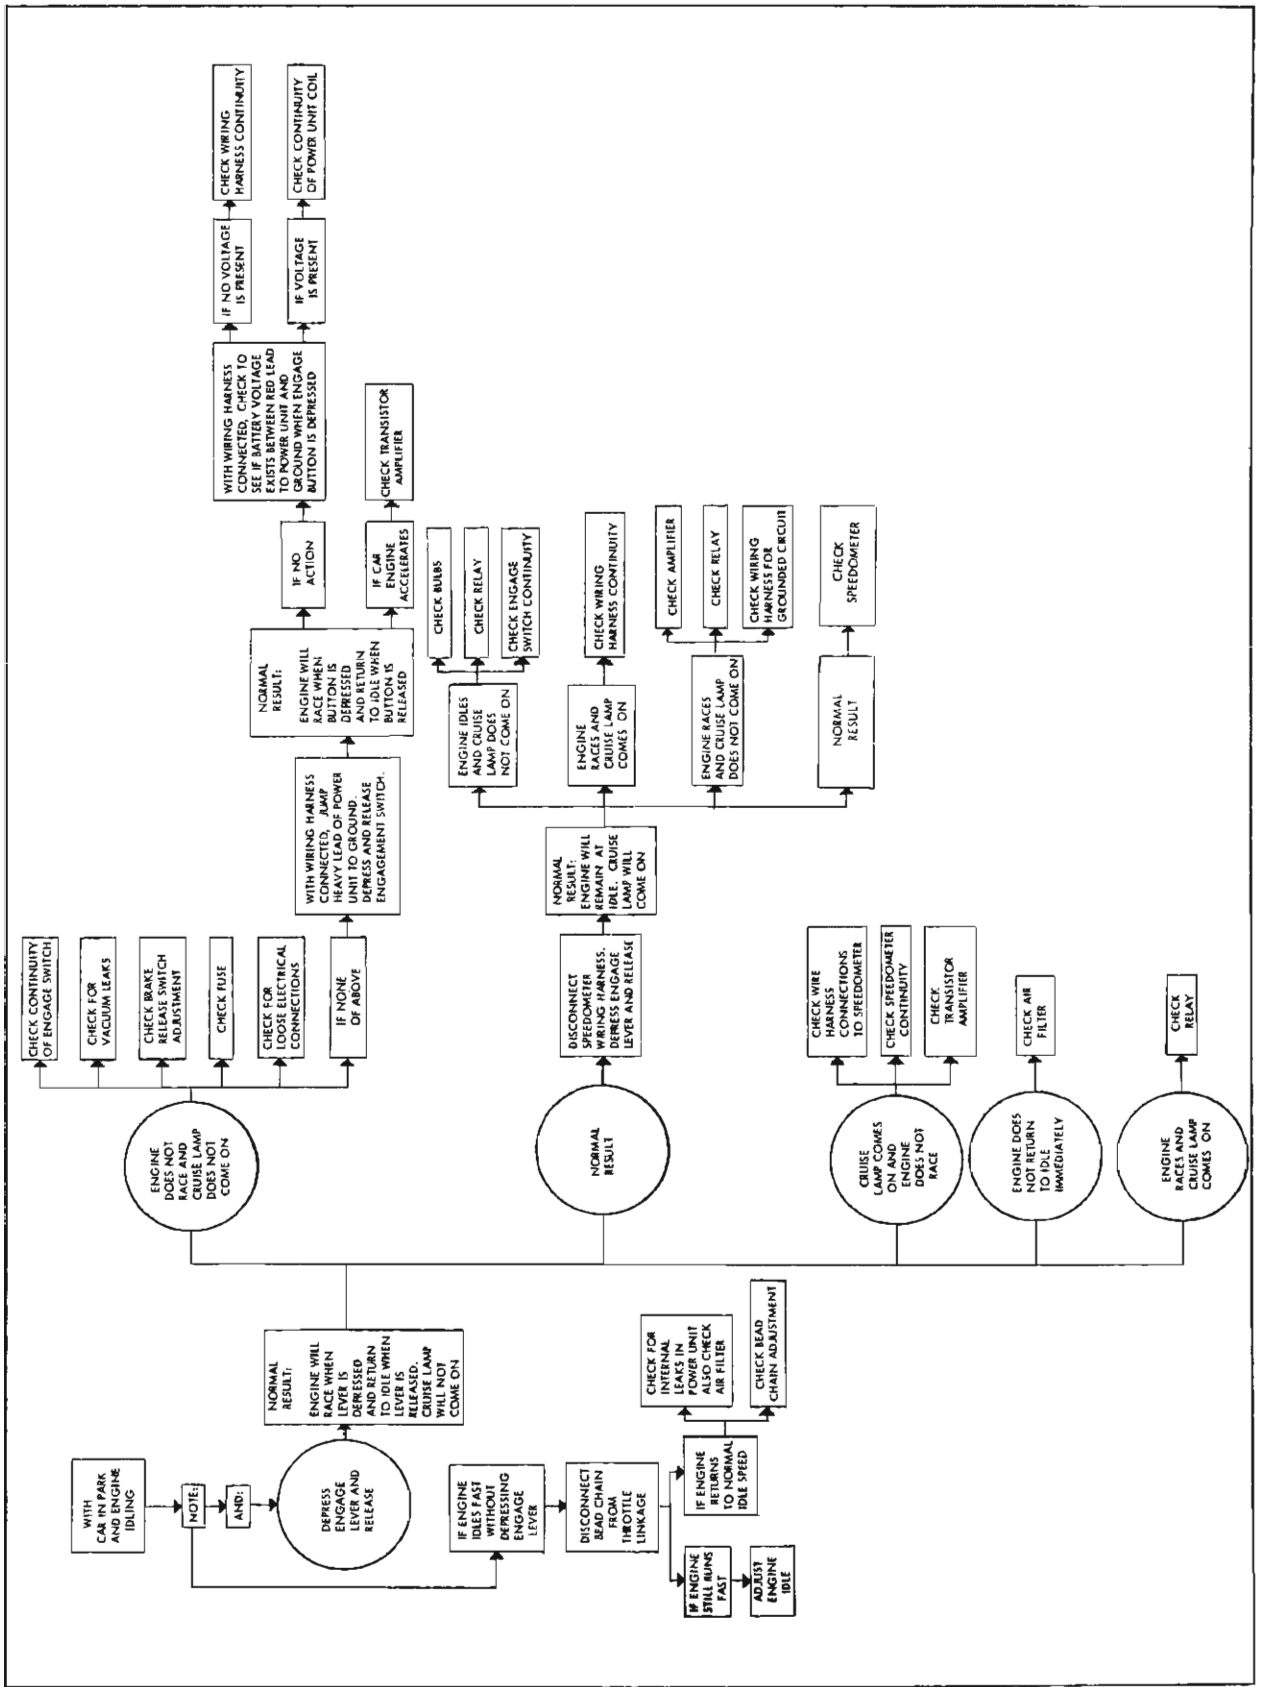

Fig. 12-12 Electro-Cruise Trouble Diagnosis Test Procedure Chart
1. The first method is to substitute a known good amplifier and perform the procedure outlined in the Trouble Diagnosis Test Procedure chart. Fig. 12-12.